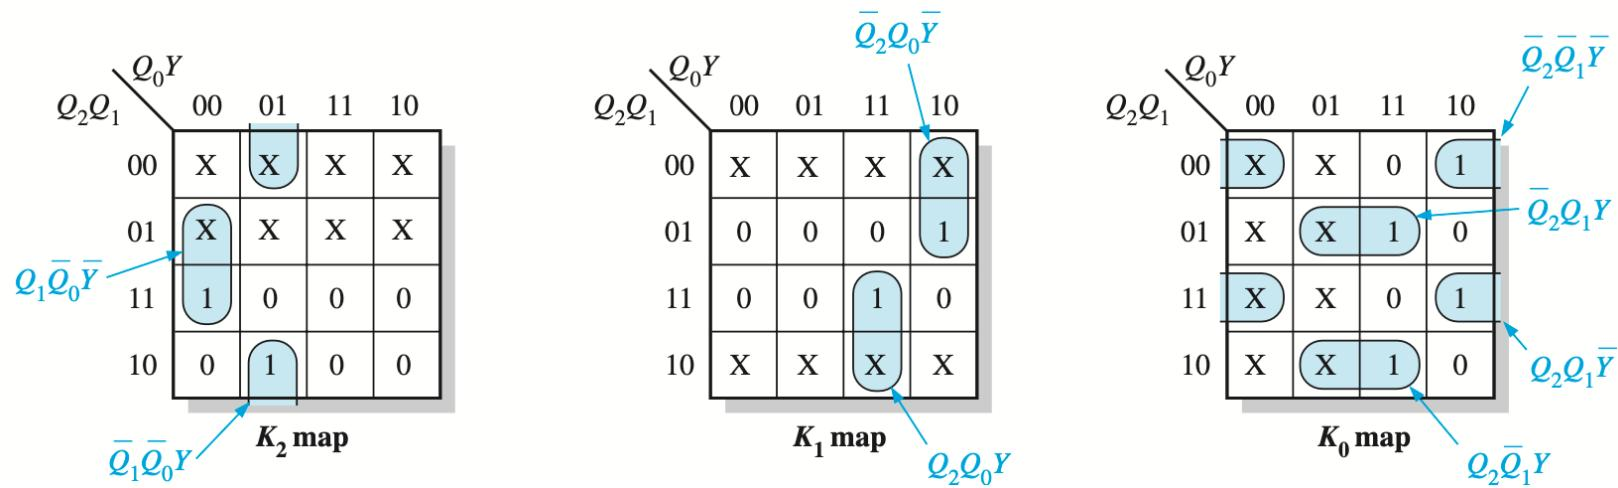

FIGURE 9–34 J and K maps for Table 9–12. The UP/DOWN control input, Y , is treated as a fourth variable.
Step 4: The Karnaugh maps for the J and K inputs of the flip-flops are shown in Figure 9–34. The UP/DOWN control input, Y , is considered one of the state variables along with Q_0 , Q_1 , and Q_2 . Using the next-state table, the information in the “Flip-Flop Inputs” column of Table 9–13 is transferred onto the maps as indicated for each present state of the counter.